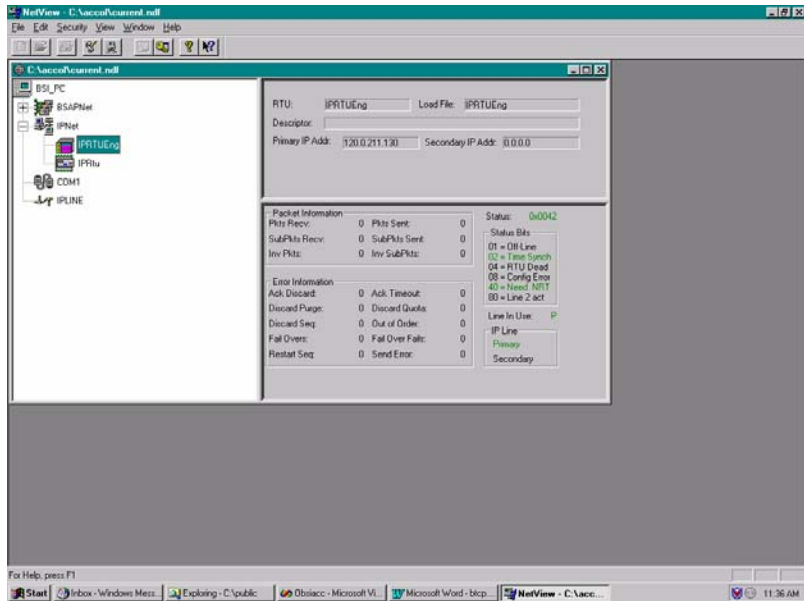

Figure 5-10. NetView
1. Start the NetView program in OpenBSI with your current network NETDEF file. A menu displays (similar to the one in *Figure 5-10*):